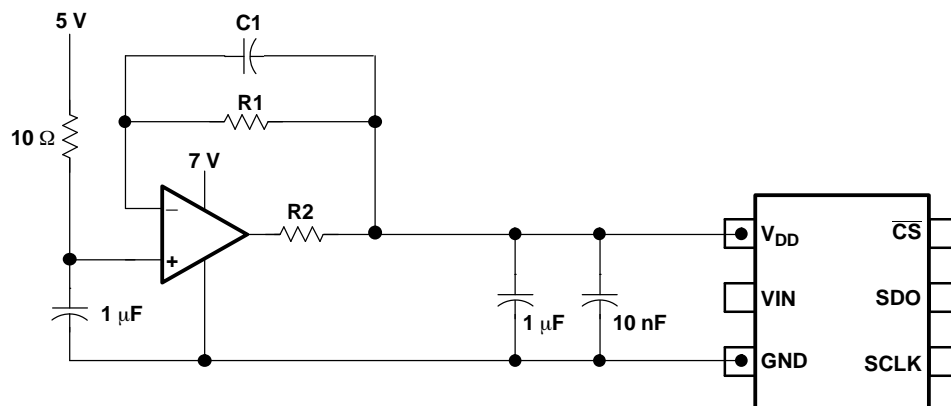

Figure 39. Buffering with the OPA735
- A low-pass filtered version of the system supply followed by a buffer like the zero-drift OPA735 can also be used in cases where the system power supply is noisy. Care should be taken to ensure that the voltage at the V_{DD} input does not exceed 7 V (especially during power up) to avoid damage to the converter. This can be done easily using single supply CMOS amplifiers like the OPA735. Figure 39 shows one possible application circuit.